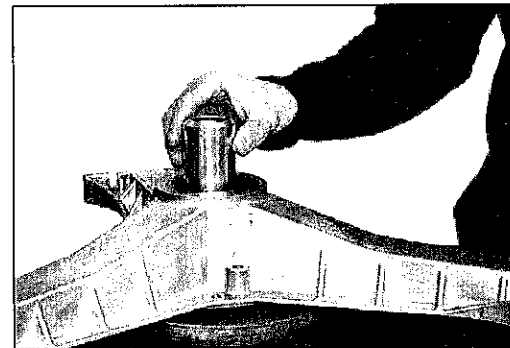

fig. 14
- Introduce the bearings' end-piece into the bearings' box and position it over the **B** centering tool. The conical side facing outward (fig. 14).